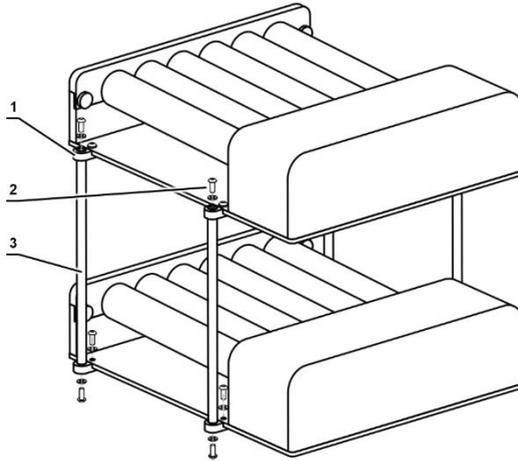

Figure 2. Stacking kit installation
4.4.4. **Stacking two units** (figure 2).
- Lock the bracket parts (fig. 2/1) with hex screws and flat washers (fig. 2/2) in 4 positions on the base plate for each stacking unit.
- Insert the connecting rod (fig. 2/3) on the bottom bracket and secure it tightly with a hex screw and a lock washer. Repeat for other connecting rods.